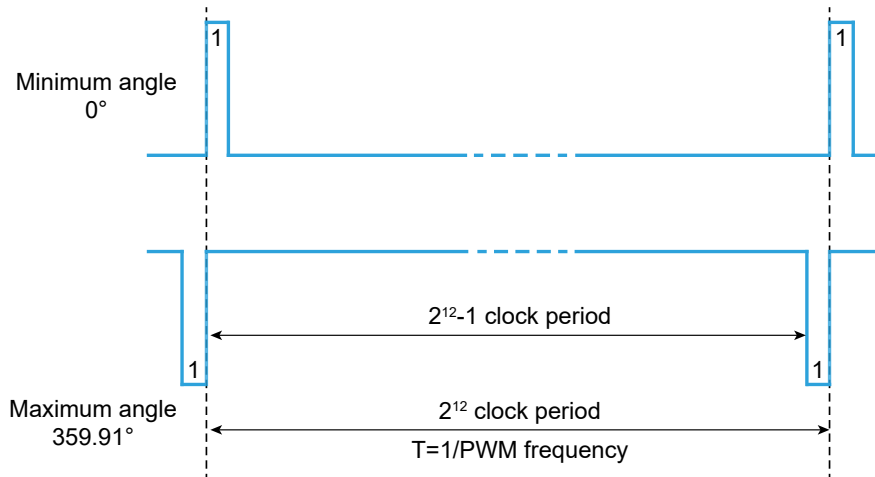

Figure 7. Waveform of PWM mode output signal
TMR3102P supports pulse width modulation (PWM) output. The duty cycle of PWM is a logic signal which proportional to the magnetic field angle. The duty cycle is limited by the minimum value (1/4096 of the period) and the maximum value (4095/4096 of the period), so the duty cycle varies from 1/4096 to 4095/4096 with the resolution of 12-bits. Figure 7 shows one period of the PWM signal, and the period (T) is $1/F_{PWM}$.